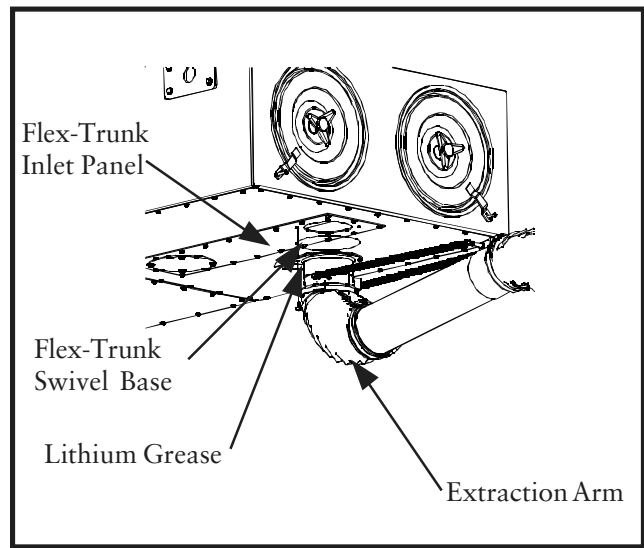

Figure 4
2.5 Assembly of Standard Equipment (See Figure 4)
3. Apply a thick film of lithium grease to the mounting flange of the extraction-arm swivel base before mounting. This will create a seal when the extraction arm is installed to the Trunk 2000. See Figure 4, Extraction Arm Installation.
4. Fasten the extraction arms as shown in Figure 4, Extraction Arm Installation and see either the installation instructions in the Flex-Trunk Installation and Operation Manual IOM-40779-00 or AEX Plus/Flex-Trunk Plus Extraction Arms Installation and Operation Manual IOM-75366-01.